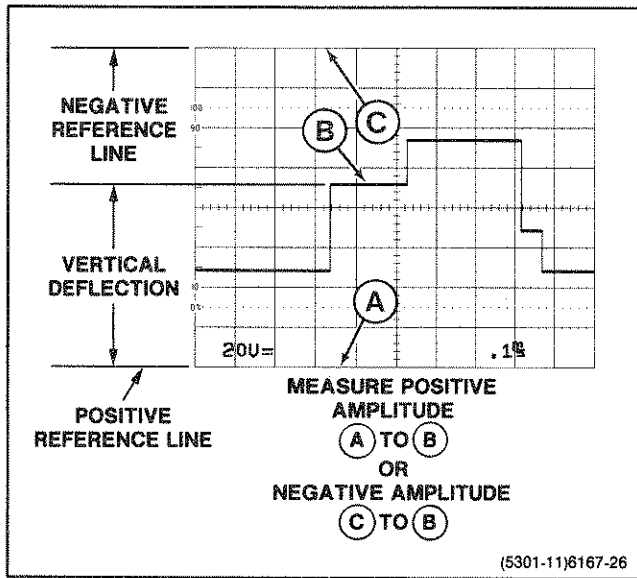

Figure 6-2. Ground-referenced voltage.
9. Measure the divisions of vertical deflection between the reference line and the desired point on the waveform at which the dc level is to be determined (see Figure 6-2).
EXAMPLE: The vertical distance measured is 4.6 divisions (see Figure 6-2). The waveform is above the reference line and the VOLTS/DIV switch is set to 20 V (includes attenuator probe scale factor).